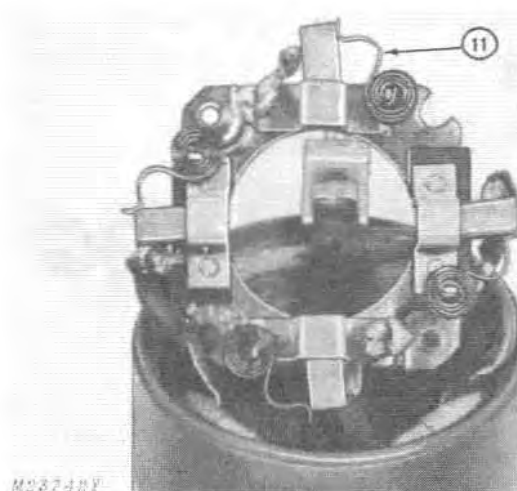

Fig. 14-Holding Brushes
11. Position brushes in holder so that the springs hold them out as shown, Fig. 14.